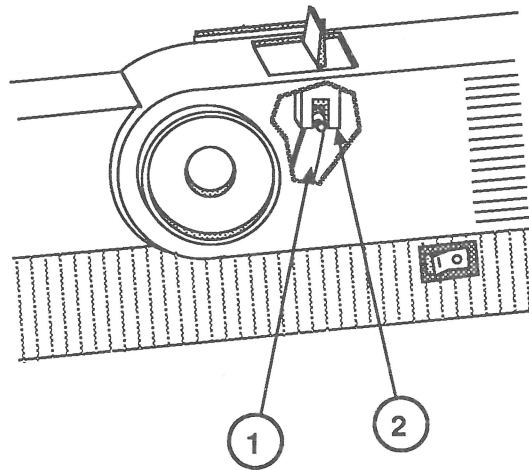

FIGURE 20
- a) The paper-feed arm (Figure 20, #1) should be engaged in the paper-feed lever (Figure 20, #2).